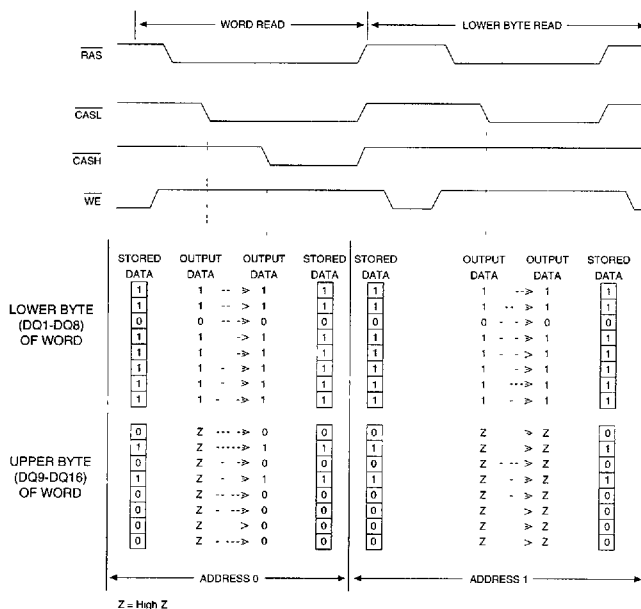

Figure 2
The MT4LC16257(S) also has **BYTE READ** and **WORD READ** cycles, since it uses two $\overline{\text{CAS}}$ inputs to control its byte accesses. Figure 2 illustrates the MT4LC16257(S) **BYTE READ** and **WORD READ** cycles.